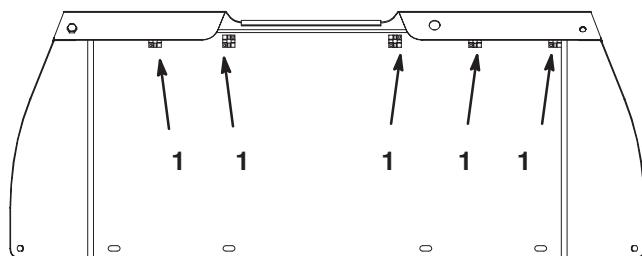

Figure 14
10. Secure the headlight wiring harness to the inside of the front shroud with (5) mounting pads and cable ties at the locations shown in figure 14. Make sure the surface is clean before affixing the mounting pads.